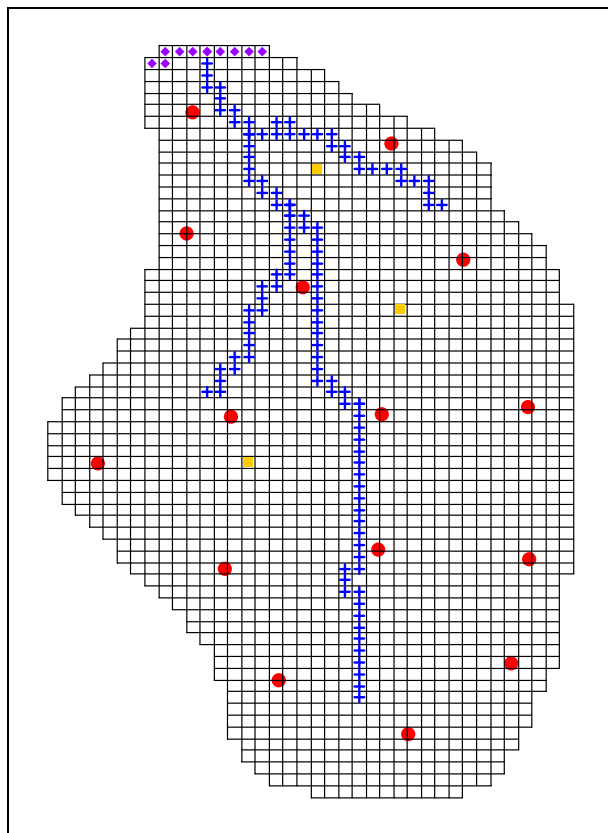

Figure 4. Placement of Scatter Points
7. Click out a set of scatter points similar to those shown in Figure 4. Create about 15 points. Don't worry about the exact location of the points, as long as they are distributed in a reasonable fashion.